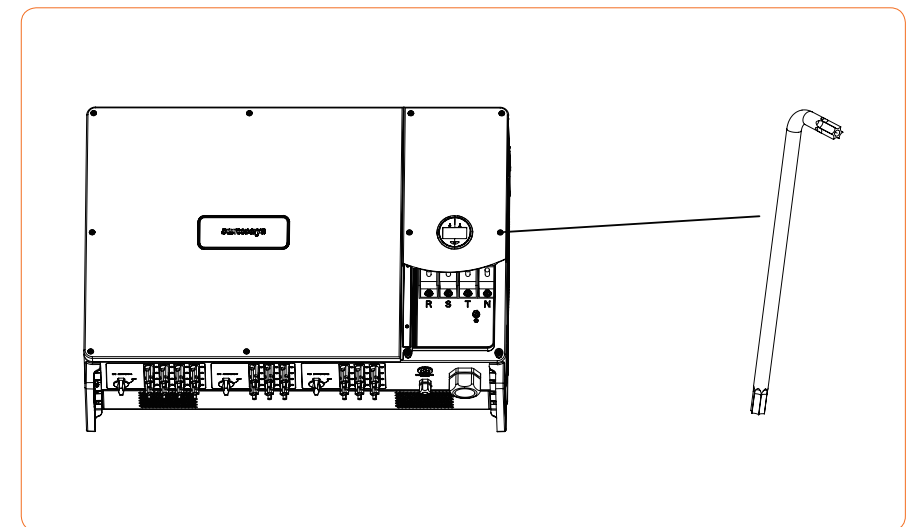

Figure 4-17
① Take out the ring spanner from the accessory box and remove the right roof cover after unscrewed the screws on it, as shown in Figure 4-17: